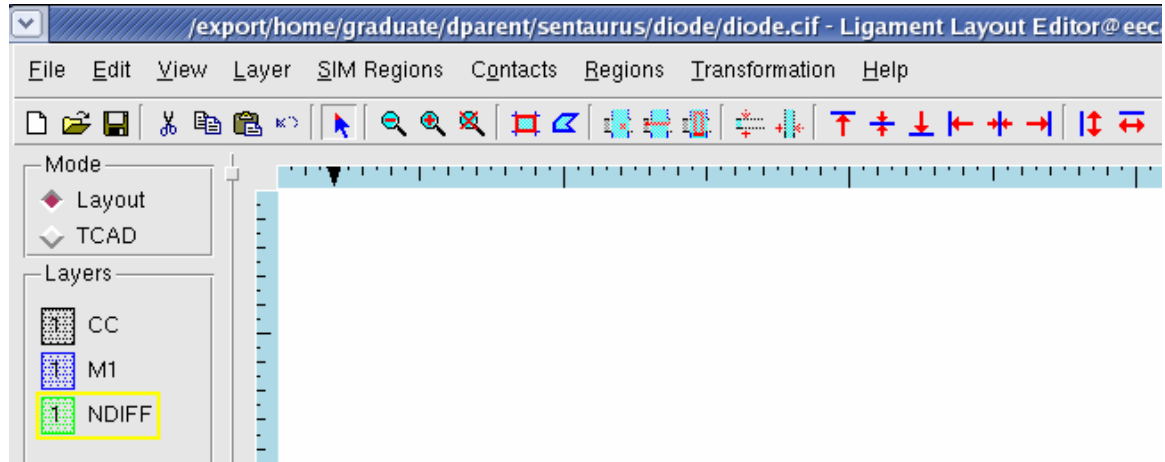

Figure 15: View of the Layout Editor with all three layers.
4. Your Layout editor should look like Figure 15.